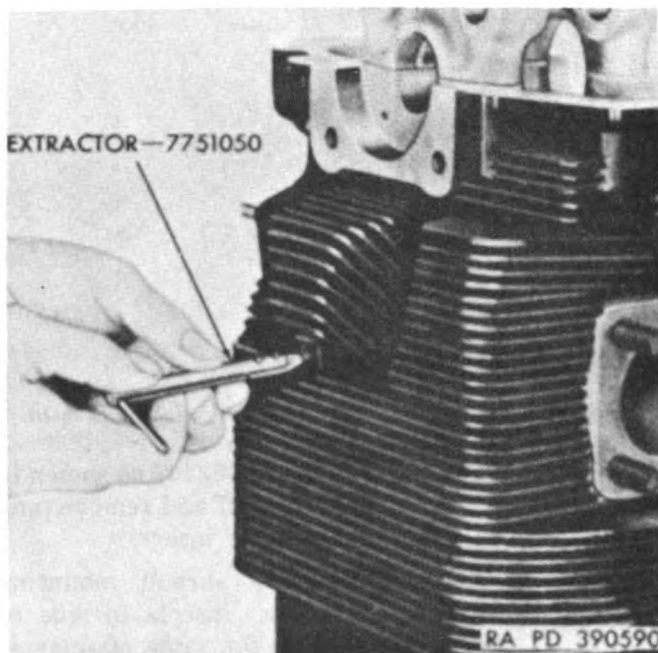

Figure 86. Removing shroud bolt Heli-coil threaded insert.
- (5) Replace damaged shroud mounting bolt hole Heli-coil inserts in side of cylinder head in the same manner as described for spark plug Heli-coil inserts ((4) (a), (b), and (d) through (f) above) except use extractor 7751050 (HH, fig. 10) and inserter 8375242 (U, fig. 10) as shown in figures 86 and 87, respectively. Remove tang ((4) (h) above).
- g. *Valve Rocker Covers (W).* Repair or replace covers as described in paragraph 79b.